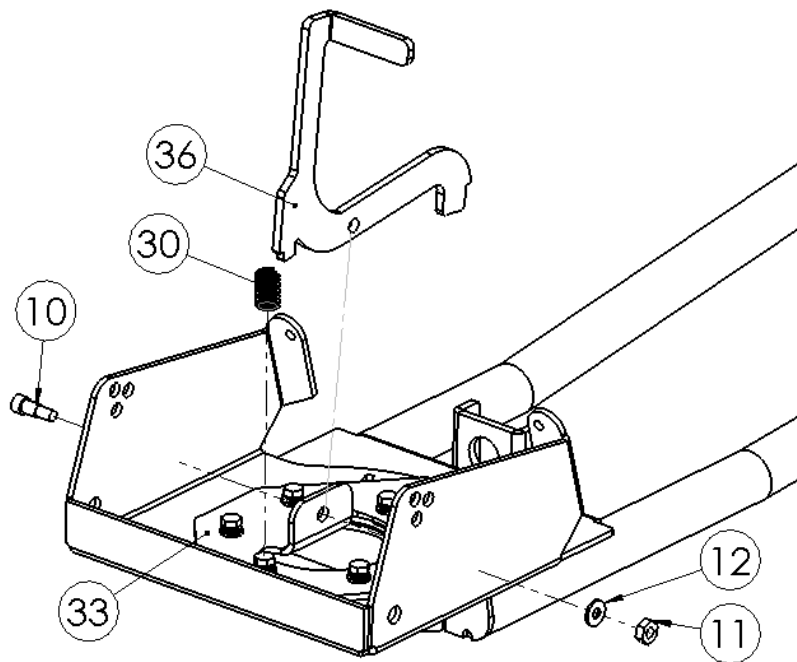

Figure 6
- 6) Attach the Locking Handle (#36) to the Slotted Locking Bracket (#33) using the 3/8" Shoulder Bolt (#10), 5/16" Washer (#12) and 5/16" Nylock Nut (#11). **Note: The 3/8" Shoulder Bolt uses a 5/16" thread pitch.** See (Figure 6).
- 7) Press the Small Compression Spring (#30) over the front most M8 Bolt from Step 5 and into the slotted tab at the bottom of the Locking Handle (#36). This spring will keep the handle forced into the locked position. See (Figure 6)